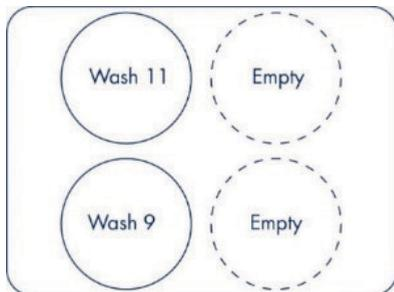

Figure 7. Wash buffer placement in the 1 liter compartment.
8. Load the two 1 liter wash bottles in the ambient deck area (Figure 7).